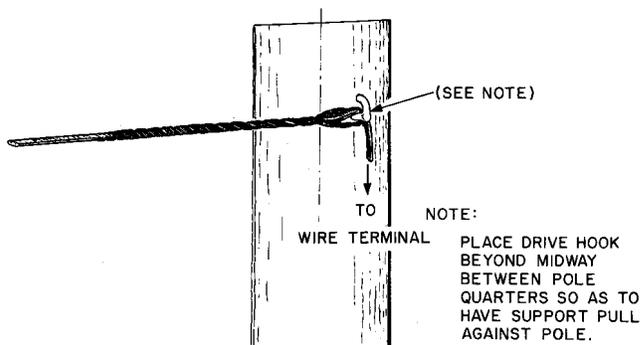

Fig. 3—Wire Dead-ended Without a Guy
6.02 Attachments at dead-end poles are made with the dead-end support as shown in Fig. 3 and 4.